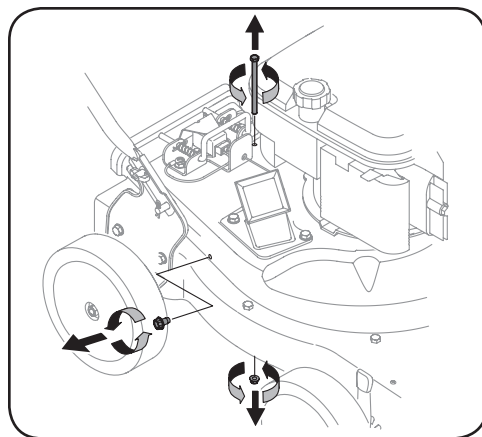

Figure 5-2
4. Remove self tapping screw (a) on right side of unit that attaches to the flail screen. See Figure 5-2.
5. Remove hex screw (b) on top of rear housing near mounting bracket and the flange lock nut (c) that secures flail screen. See Figure 5-2.